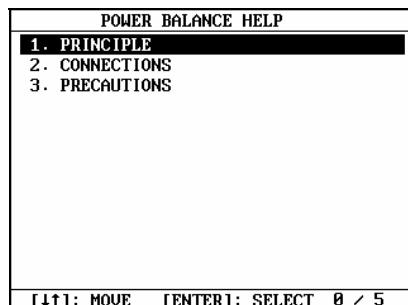

Fig.7-05
On the second-level function menu, you can press [ESC] key to exit, or press [HELP] key to get the help information, as shown in Fig.7-05.
- [HELP]: to view the help information, as shown in Fig.7-05.